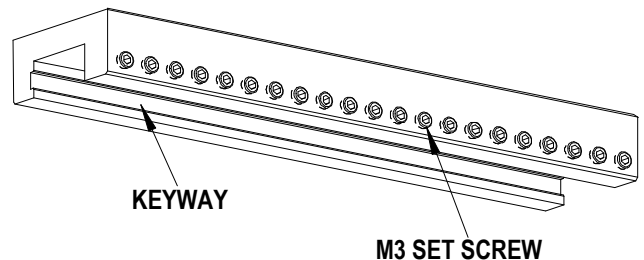

Figure 2-2
1. Along the lower edge of the tooling holder is a row of M3 set screws, back these out so that they do not protrude into the inside of the holder. See Figure 2-2.